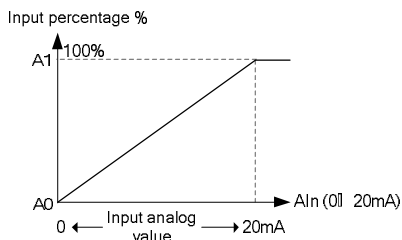

Fig.6-20 Corresponding percentage of input analog value (current)
- u When current analog value input is selected, please refer to Fig.6-20.